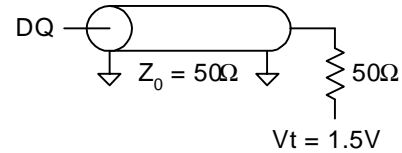

Fig. 1 OUTPUT LOAD EQUIVALENT
9. Test conditions as specified with the output loading as shown in Fig. 1 unless otherwise noted
13. Capacitance derating applies to capacitance different from the load capacitance shown in Fig. 1.
Output load	See Figures 1